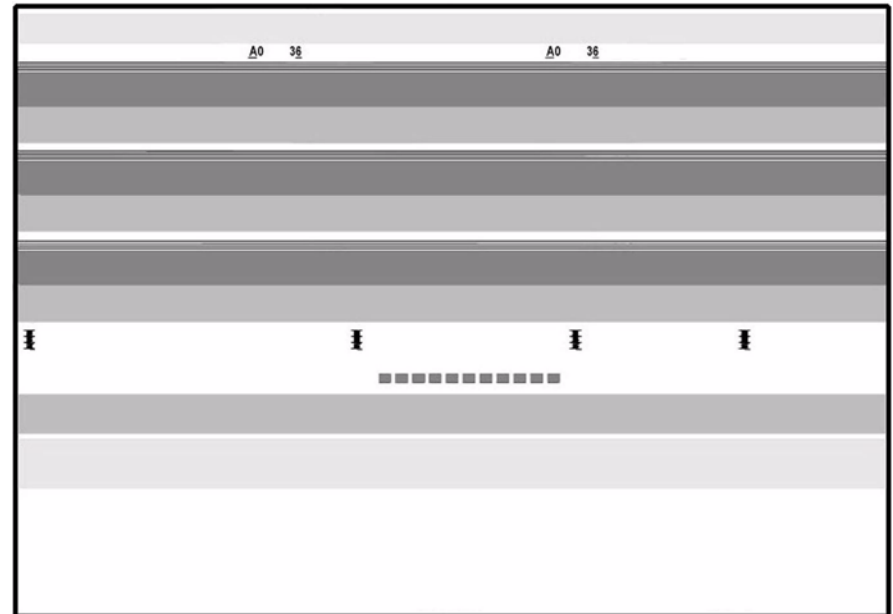

Figure 1 LPH Test Pattern (ROM Pattern 13)
- ROM Pattern Number: **13 (Figure 1)**